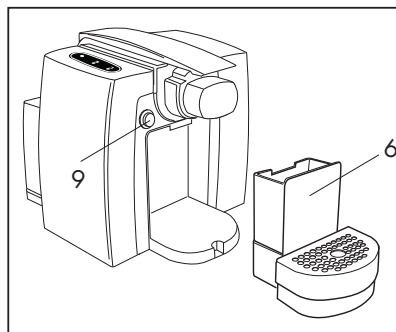

Fig. 15
• When the buttons ☐ (D), ☐ (E) are flashing, means that 15 pods have been used and the pod drawer (6) is full. If that happens, the dispensing function will be stopped.
Empty the pods receptacle (6) and rinse. **(Fig. 15)**.